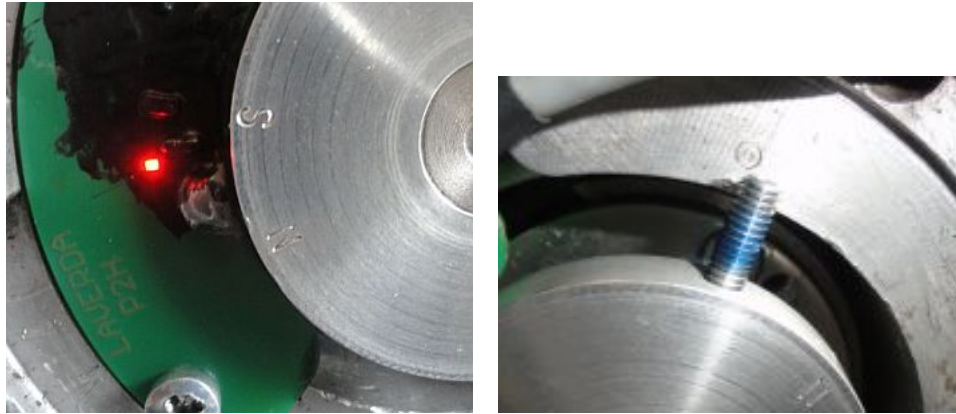

Figure 7 Initial setup and mounting the magnet disk
- Rotate the disk slowly to the N-marking until the LED is switching off. The disk is in the correct position and can be secured by tightening the set screws, see figure 7. Do the adjustment as accurately as possible.